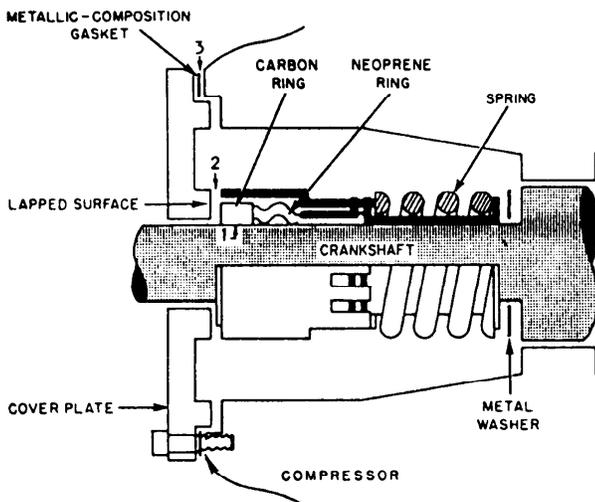

Figure 11-6.—Rotary seal.
The rotary seal, shown in figure 11-6, consists of a stationary cover plate and gasket, a rotating assembly which includes a carbon ring, a neoprene seal, a compression spring, and compression washers. The sealing points are (1) between the crankshaft and the rotating carbon rings and sealed by a neoprene ring, (2) between the rotating carbon ring and the cover plate and sealed by lapped surfaces, and (3) between the cover plate and the crankcase and sealed by a metallic gasket. The seal is adjusted by adding or removing metal washers between the crankshaft shoulder and the shaft seal compression spring.